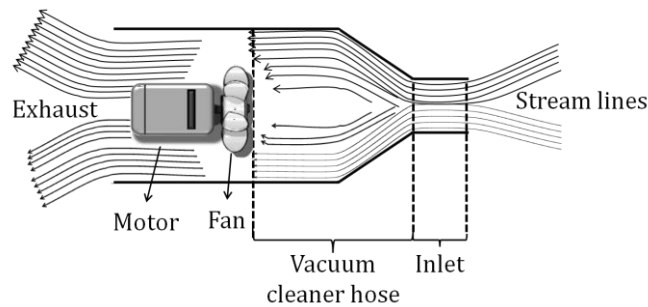

Figure 16: Illustration showing the stream lines in a working vacuum cleaner. Vacuum is created in front of the fan.
- The Venturi effect: The Venturi effect is the reduction in fluid pressure that results when a fluid flows through a constricted section (or choke) of a pipe (see Fig. 16). So the Venturi effect is a special case of Bernoulli's principle in the case of air flow through a tube or pipe with a constriction in it. The air must speed up in the restriction, reducing its pressure and producing a partial vacuum via the Bernoulli effect.